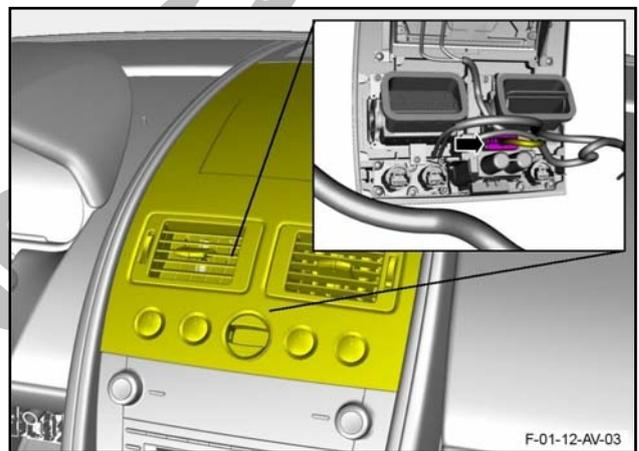

Figure 16
- 19. Connect the electrical connector to the ignition switch module (refer to Figure 16).